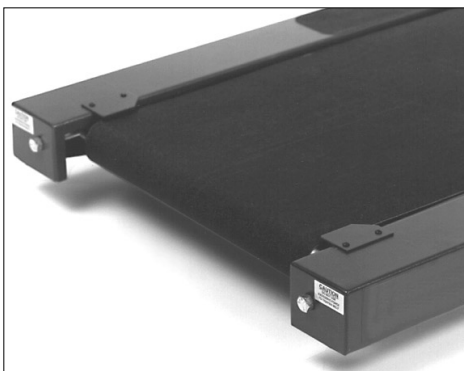

Fig. 5-1: Running belt tension bolts
1. Locate the two large, steel, 3/4-inch hex head bolts at the rear of the treadmill (see Figure 5-1). These are called belt tension bolts.
2. Locate the two large, steel $\frac{1}{4}$ -inch hex head bolts at the rear of the treadmill (see Figure 5-1).